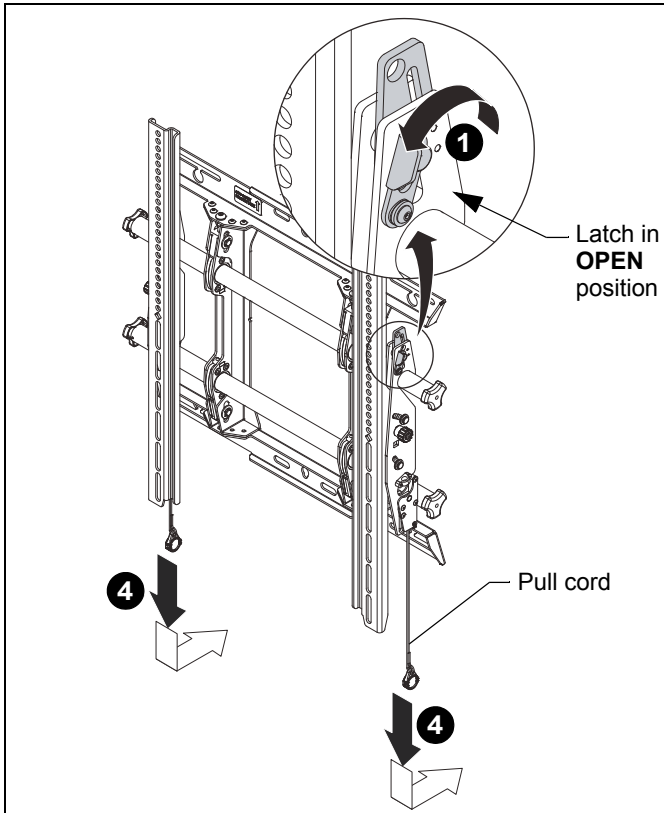

Figure 10
11. Mark the attachment points for the lower mounting slots, making sure the attachment points are located on the studs. (See Figure 10)
12. Drill 7/32" (5.5mm) pilot holes at markings for lower mounting holes. (See Figure 10)
13. Use two 5/16 x 2-1/2" flanged lag bolts (N) and two 5/16" slotted washers (Q) to attach the mount to the wall through the lower mounting holes. (See Figure 10)
1. Hang screen onto the top rail of the mount (Z). (See Figure 10)
- Move latch on top of interface bracket to **OPEN** position and hang top hook of interface brackets (X and Y) onto the top rail of the mount (Z). (See Figure 10)
4. Pull downward on the pull cords and swing inward toward wall, latching interface brackets to lower rail and fastening bottom of screen to the mount. (See Figure 10)
5. Attach end of pull cord (a magnet) to mount so it does not extend beyond bottom of screen. (See Figure 10)